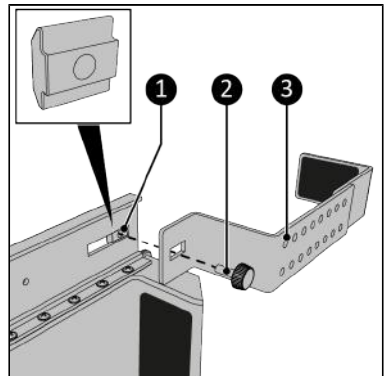

Figure 71.
7. Screw the bracket (Figure 71, pos. 3) to the main rail in the front position using the knob screw (Figure 71, pos. 2). Make sure you connect the knob screw to the slide nut (Figure 71, pos. 1).